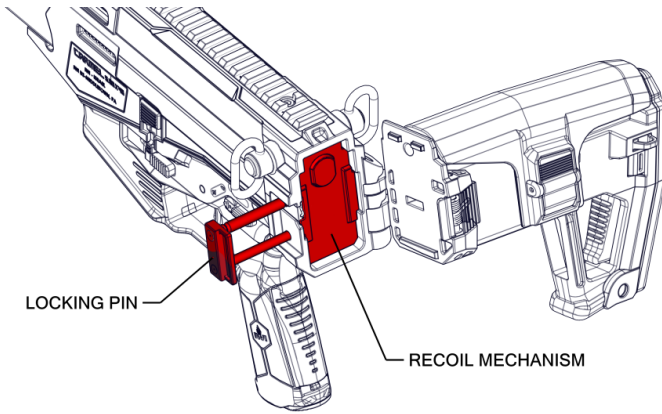

Figure 10-3 – Pulling out the Recoil Mechanism Locking Pin
5. Pull out the Recoil Mechanism Locking Pin till it stops (Figure 10-3). You may need to press in on the recoil mechanism slightly to release tension while pulling the locking pin.